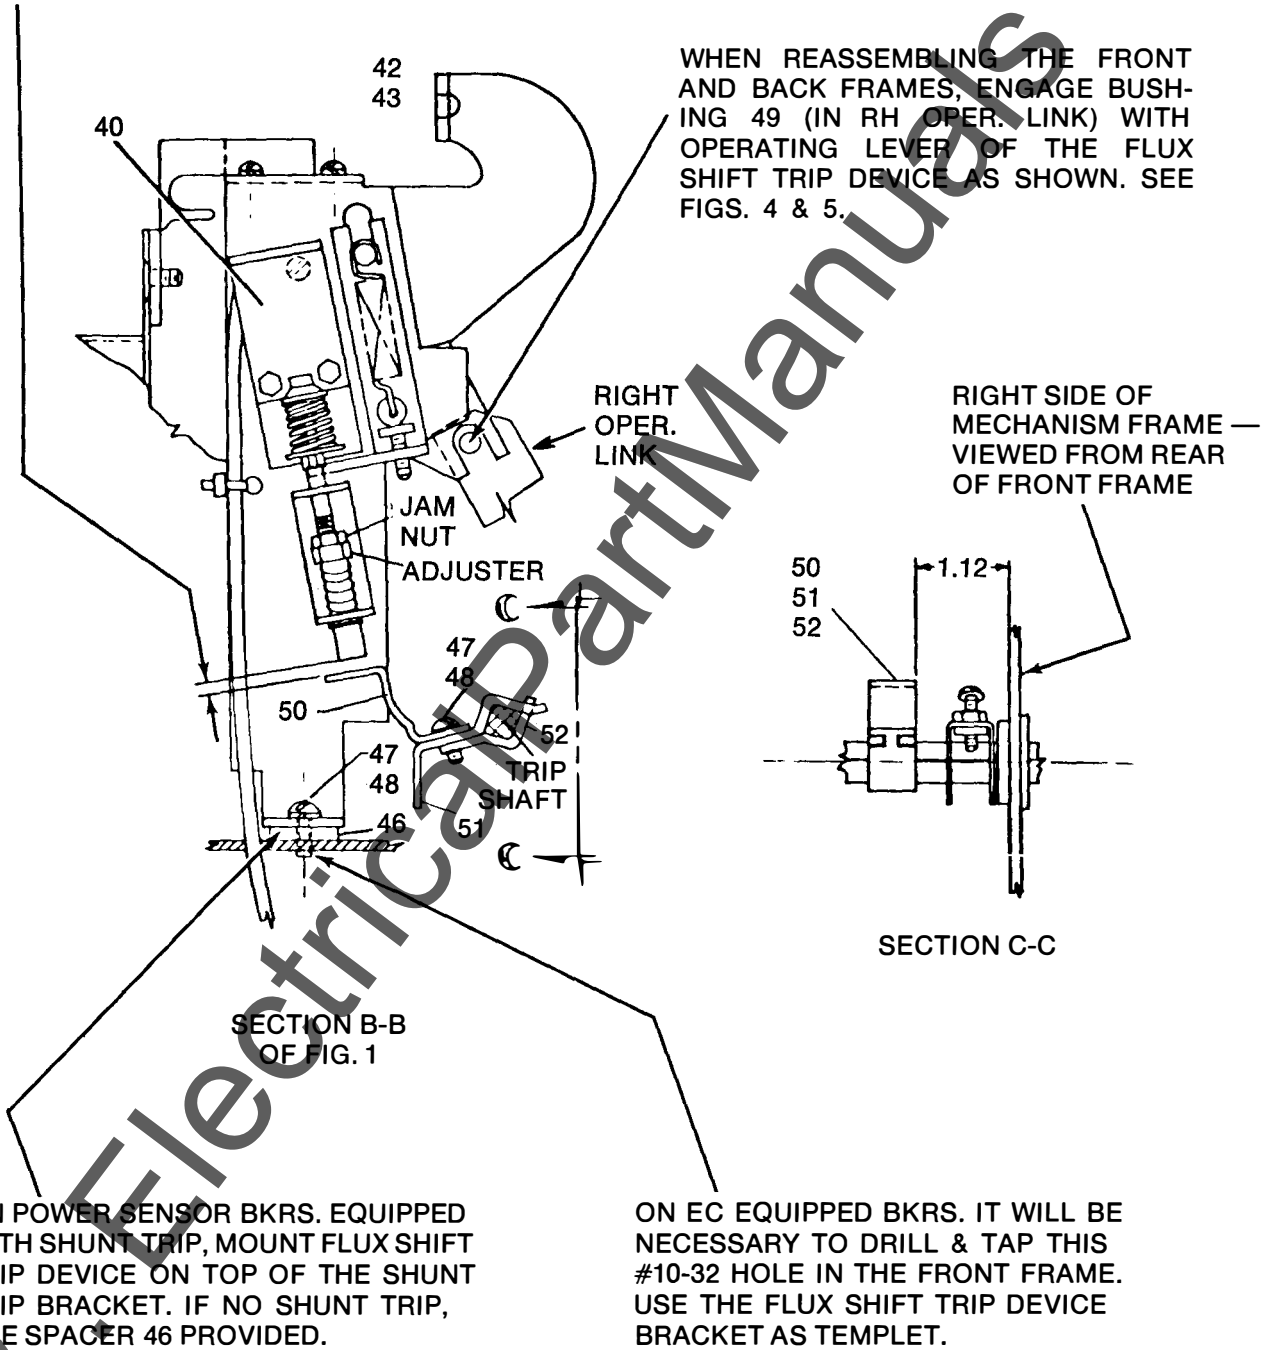

Fig. 17 — Right side view of mechanism frame showing mounting of flux shift trip device 40.
7. Proceeding next to the front frame, mount the flux shift trip paddle on the breaker's trip shaft per Figs. 17 and 18.
8. Mount the flux shift trip device per Figs. 17 and 19. NOTE: Adjustment of trip rod length will be performed later in Step 13.
13. Adjust flux shift trip rod gap per instructions on Fig. 17.